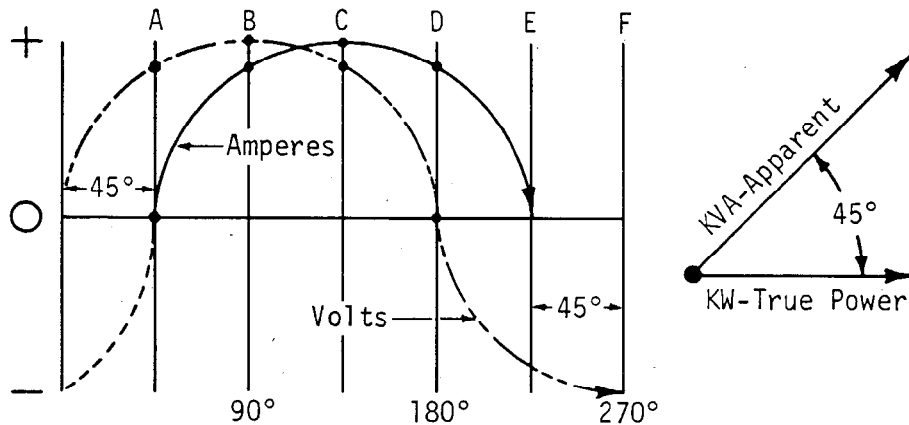

FIGURE 10-A - POWER FACTOR DETERMINED BY DEGREE VOLTS
The triangular representation shown in Figure 10-A can be used to find the apparent (KVA) and true (KW) ratings of a 240 volt, 55 ampere, single phase generator. Since KVA is the product of volts times amperes, KVA in this case will equal 240×55 divided by 1000 or 13.2. The triangle shows an angle of 45° between volts and amperes. The power factor would be the cosine of this angle or 0.7.